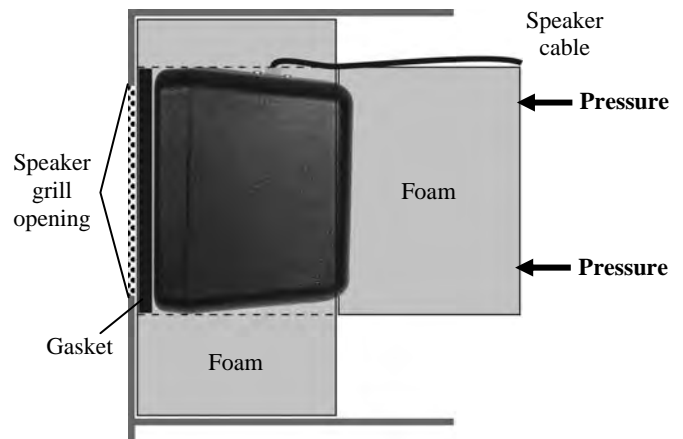

Figure 21. SP10 in speaker post, menu board or enclosure
- Position the speaker inside the speaker post or menu board, with the gasket centered against the inside of the speaker grill as shown in Figure 21. The cable connector can be on top or on either side. Align the opening in the gasket with the grill opening.
- Place foam around the sides and back of the speaker as shown in Figure 21.